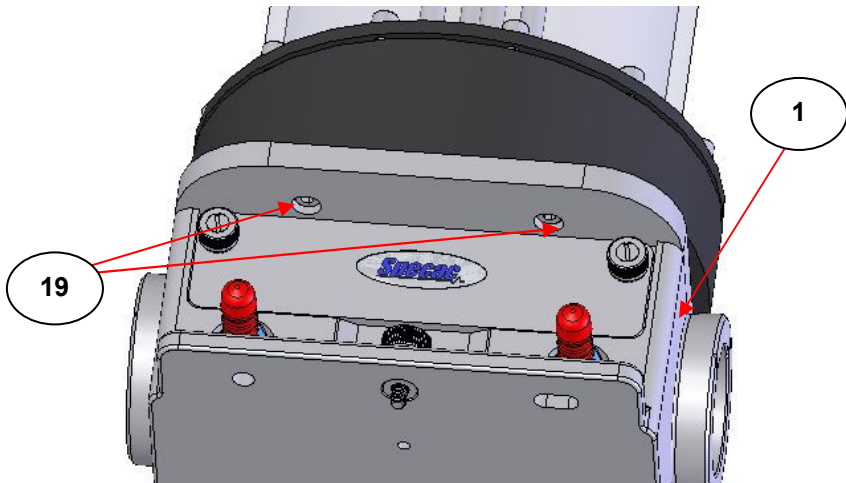

Fig 18. Front View of Tornado™ T10 and T20 Gas Cells Showing Fixing Screws (19) to the Optical Unit (1)
The procedure to separate the T10 and T20 gas cells from their optical units is exactly the same as for the T5 size gas cell, except that the two front fixing screws (19) of the four are accessible **without** the need to remove the front cover plate (4). (See Fig 18.)